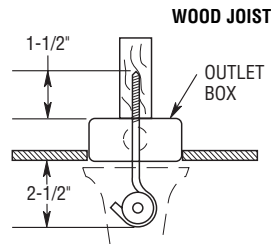

Figure 6
**On Wood Joist** - Locate and drill a pilot hole in the wood joist. Install the screw type J-hook so that hook extends 2-1/2" below the outlet box. (See Figure 6.)